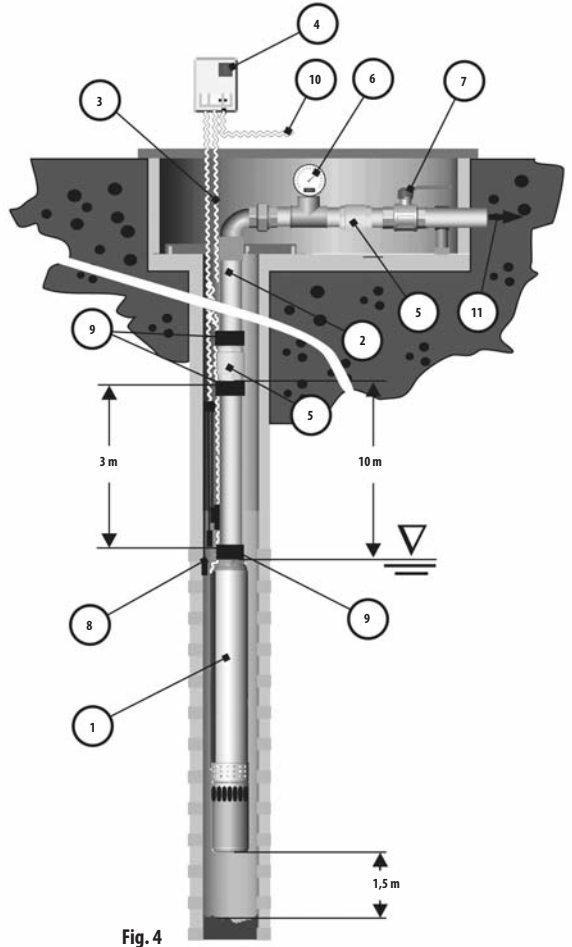

Fig. 4
**SCHÉMA D'INSTALLATION - Fig. 4:**
## 5- INSTALLATION ELECTROPOMPE (Fig. 4):